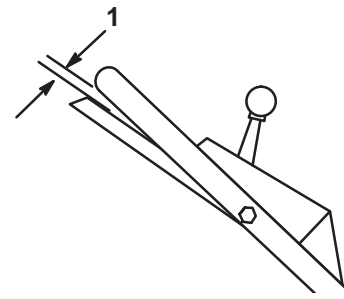

Figure 23
3. CHECK ADJUSTMENT—Slowly pull mower backward while control bar is gradually moved toward handle. Adjustment is correct when rear wheels stop turning and control bar is about one inch from handle (Fig. 23).